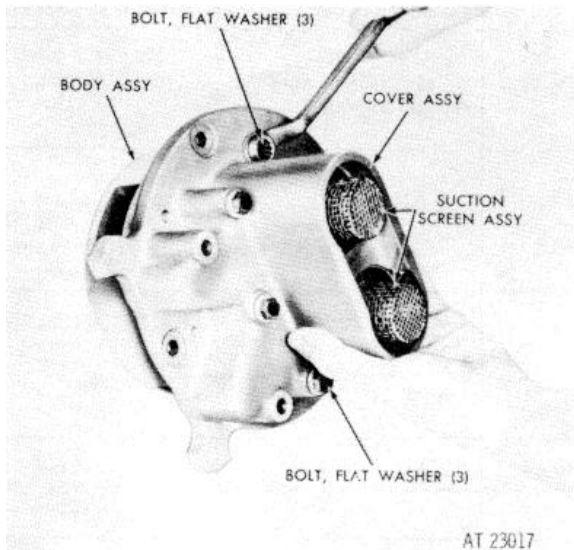

Figure 7-56. Removing (or installing) brake coolant pump cover assembly bolt.
a. Remove three bolts (68), three bolts (70) and six flat washers (67 and 69). Remove coolant pump cover assembly (55) from pump body assembly (44). Refer to figure 7-56.
- g. If bearings (52 and 54) were removed from driven gears (53), install new replacements. Install each bearing, pressing against the numbered side of the bearing cage, 0.006 inch below the end surface of each gear.
- h. Install two driven gear assemblies (51) onto driven gear shafts (49).
- i. If needle bearings (57) were removed from pump cover (58), install new replacements. Install the bearings, pressing against the numbered side of the cage, 0.050 inch below the surface of the cover.
- j. If dowel pins (56) were removed from pump cover (58), install new replacements. Install pins to 0.300 inch above the surface of the cover.
- k. Install two pins 159, FO-11), large diameter first, into pump cover (158).
- l. Install a spring (61) onto each pin (59).
- m. Install a washer (60) onto each pin.
- n. Install a grommet (63) on each pair of washers (62 and 64).
- o. Install each pair of washers (62 and 64) with grommet (63) onto each pin (59). The steel washers (62) must be upward, against spring 161).
- p. Install two screen assemblies (65) into pump cover (58) and secure each screen with a retaining ring (66).
- q. Install the pump cover assembly and attached parts onto pump body assembly (44). Secure the two assemblies with three 5/16-18 x 1 1/8-inch bolts (68) and flat washers (67). Tighten the bolts to 13 to 16 pound feet torque. Install three 5/16-18 x 2 3/4-inch bolts (70) and flat washers (69). Tighten the bolts to 17 to 20 pound feet torque (fig. 7-56)